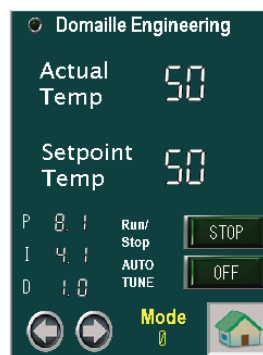

FIG 7. Setup Screen #3
On Setup Screen #3 [Fig. 7] the user can adjust the PID parameters of the oven temperature controller either manually (not recommended) or through auto tune algorithms built into the electronics. To manually adjust the P, I, or D values press the numeric value next to the letter and enter a new number. The range of allowed values is 0 thru 99.9 for each parameter. For a typical oven configured to use the standard Domaille Engineering MT curing tray the values should be approximately P=8, I=4, and D=1, respectively.
- Once the setup is ready press the RUN/STOP button to turn the oven on [Fig. 7].
- Immediately press the AUTO TUNE button to put the oven in AUTO TUNE mode (Turn it ON) [Fig. 7].